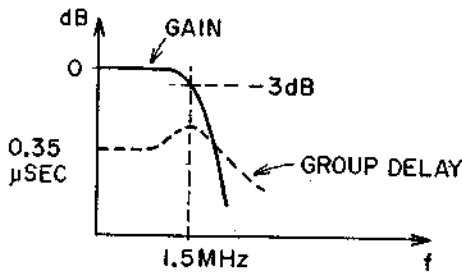

Fig. 84
PB LPF is to take out the low converted chroma signal (low chroma) 627 kHz from the pre-amplifier output during PB and also adjust the phase relation between Y and chroma during PB. The characteristic is shown in Fig. 84 and it has the delay of 0.35 msec. After LCB-59, the signal is amplified by TR27. (about 200 mVp-p color bar at 6360 ⑱).